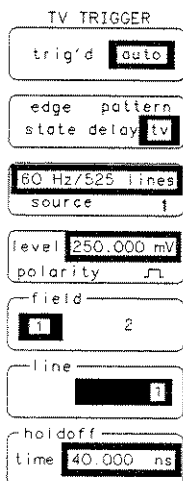

*Figure 6-16. Ten Burst Pulse Triggered on Pulse 9*
- Change the **trigger on count** key to **9** (see Figure 6-16).